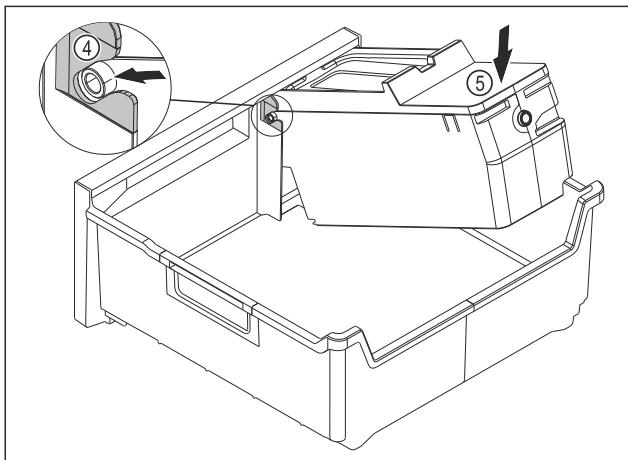

Fig. 175
- ▶ Installing the EasyTwist-Ice body: Push the axes for the EasyTwist-Ice body into the guides Fig. 175 (4).
- ▶ Press the EasyTwist-Ice body Fig. 175 (5) down at the back.